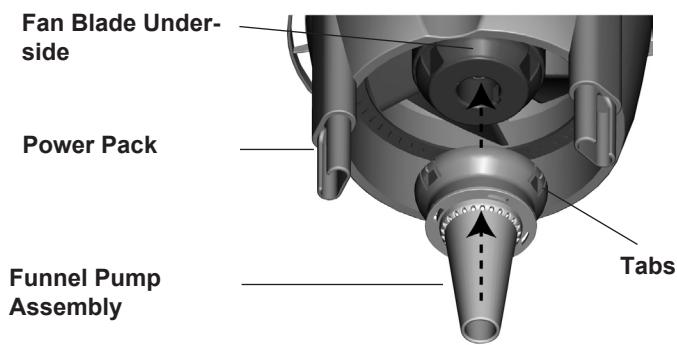

**Figure 18a**
4. Assemble the Pump Cap and the Funnel Pump by aligning the arrows on both components and inserting the Funnel Pump into the Pump Cap. Twist the Funnel Pump counter-clockwise until the two components snap together. See figures 18a and 18b.